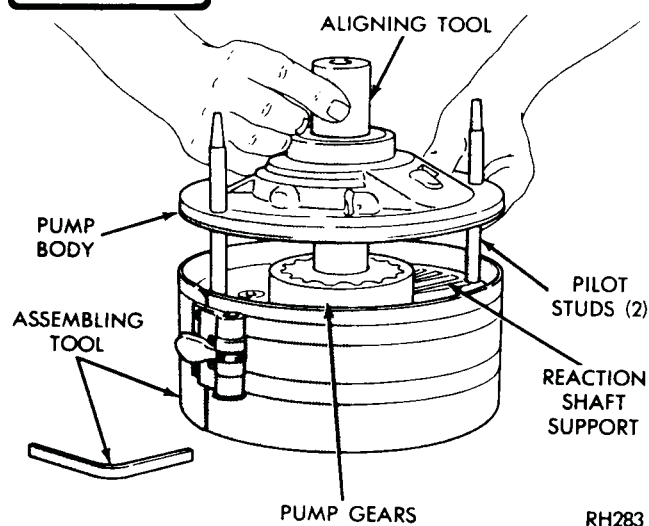

Fig. 13—Assemble Pump and Reaction Shaft Support (A-904T and A-999)
(1) Place reaction shaft support in assembling Tool C-3759, with hub of support and tool resting on a smooth, flat surface bench (Fig. 13). Screw two pilot studs Tool C-3283A into threaded holes of reaction shaft support flange.
(2) Assemble and place pump gears in center of the support.
(3) Lower pump body over the pilot studs, insert Tool C-3756 through pump body and engage pump inner gear. Rotate the pump gears with tool to center gears in pump body, then with pump body firm against reaction shaft support, tighten clamping tool securely.
(4) Invert pump and reaction shaft support assembly with clamping tool intact. Install support to pump body bolts and tighten to 175 in. lbs. (20 N·m). Remove clamping tool, pilot studs, and gear alignment tool.
(5) Place a new oil seal in opening of pump housing (lip of seal facing inward). Using Tool C-4193 and handle Tool C-4171, drive seal into housing until tool bottoms.